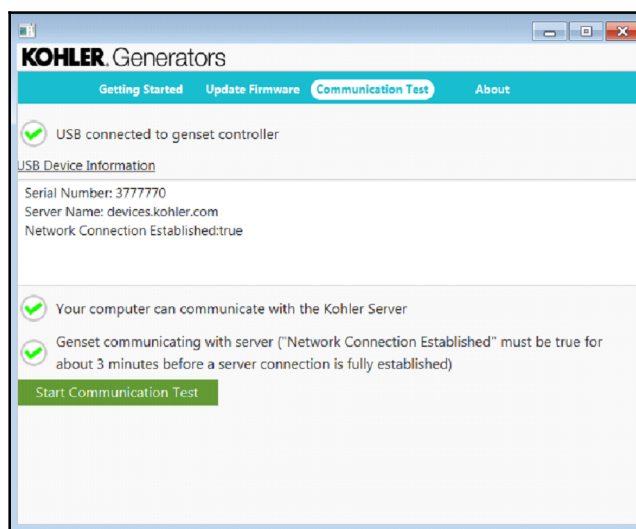

Figure 6 Communication Test Screen
1. Select the **Communication Test** tab at the top of the USB Utility screen. See Figure 6.